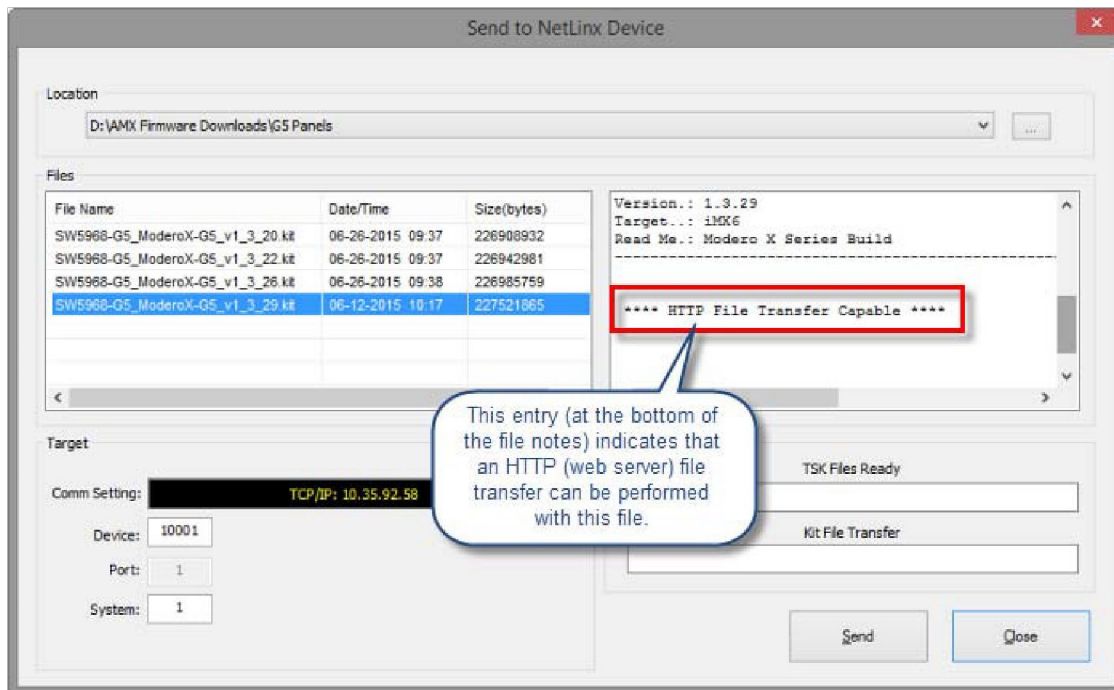

FIG. 159 NetLinX Studio - Send to NetLinX Device dialog This invokes the Send To NetLinX Device dialog.
6. In the Files window, click to select the G5 *.kit file to transfer (FIG. 159):